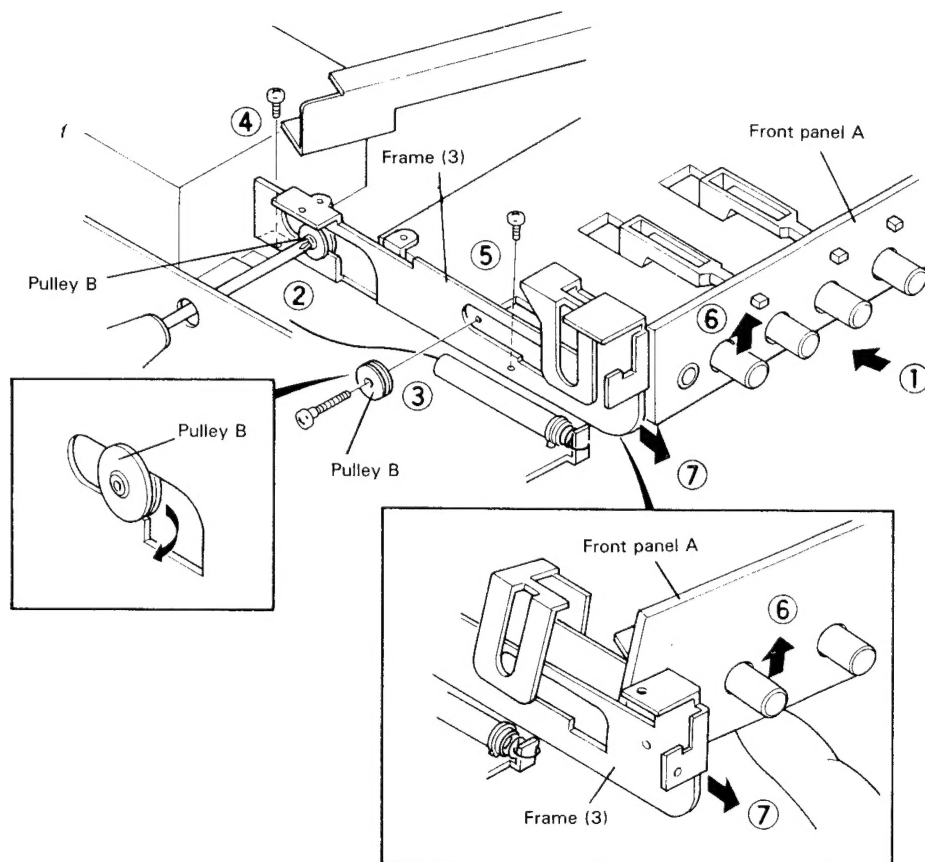

Fig. 8 How to remove switch pcb ass'y (3)
11. Push the front panel A inward. (Fig. 8-①)
12. Remove 2 pulleys (pulley B) on the left side. (Fig. 8-②, ③)
13. Remove the screws from the frame (3). (Fig. 8-④, ⑤)
14. Lift the left side of the front panel up. (Fig. 8-⑥)
15. Pull the frame (3) forward. (Fig. 8-⑦)